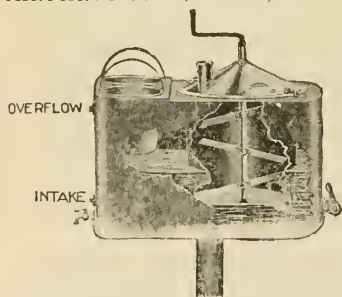

FIG. 66— MIXER AND GLUE HEATER
To prepare hot glue, break it into small pieces and soak for 12 hours in cold water before boiling. Always use a glue pot of the double boiler type, one of which is shown in Fig. 66. This has a mixer as well as the seperate glue pots in which the glue is afterwards placed. It should be the consistency of thin syrup when applied.
71. Glue Heaters--The glue heater shown in Fig. 66 may be attached to a live steam pipe so as to heat the water for preparing the glue and keeping it heated, or have gas burners placed beneath it. In mixing glue, always keep in mind that glue which has been heated very many times loses its strength. For this reason no more should be mixed at a time than can be used with miinum number of re-hearings.